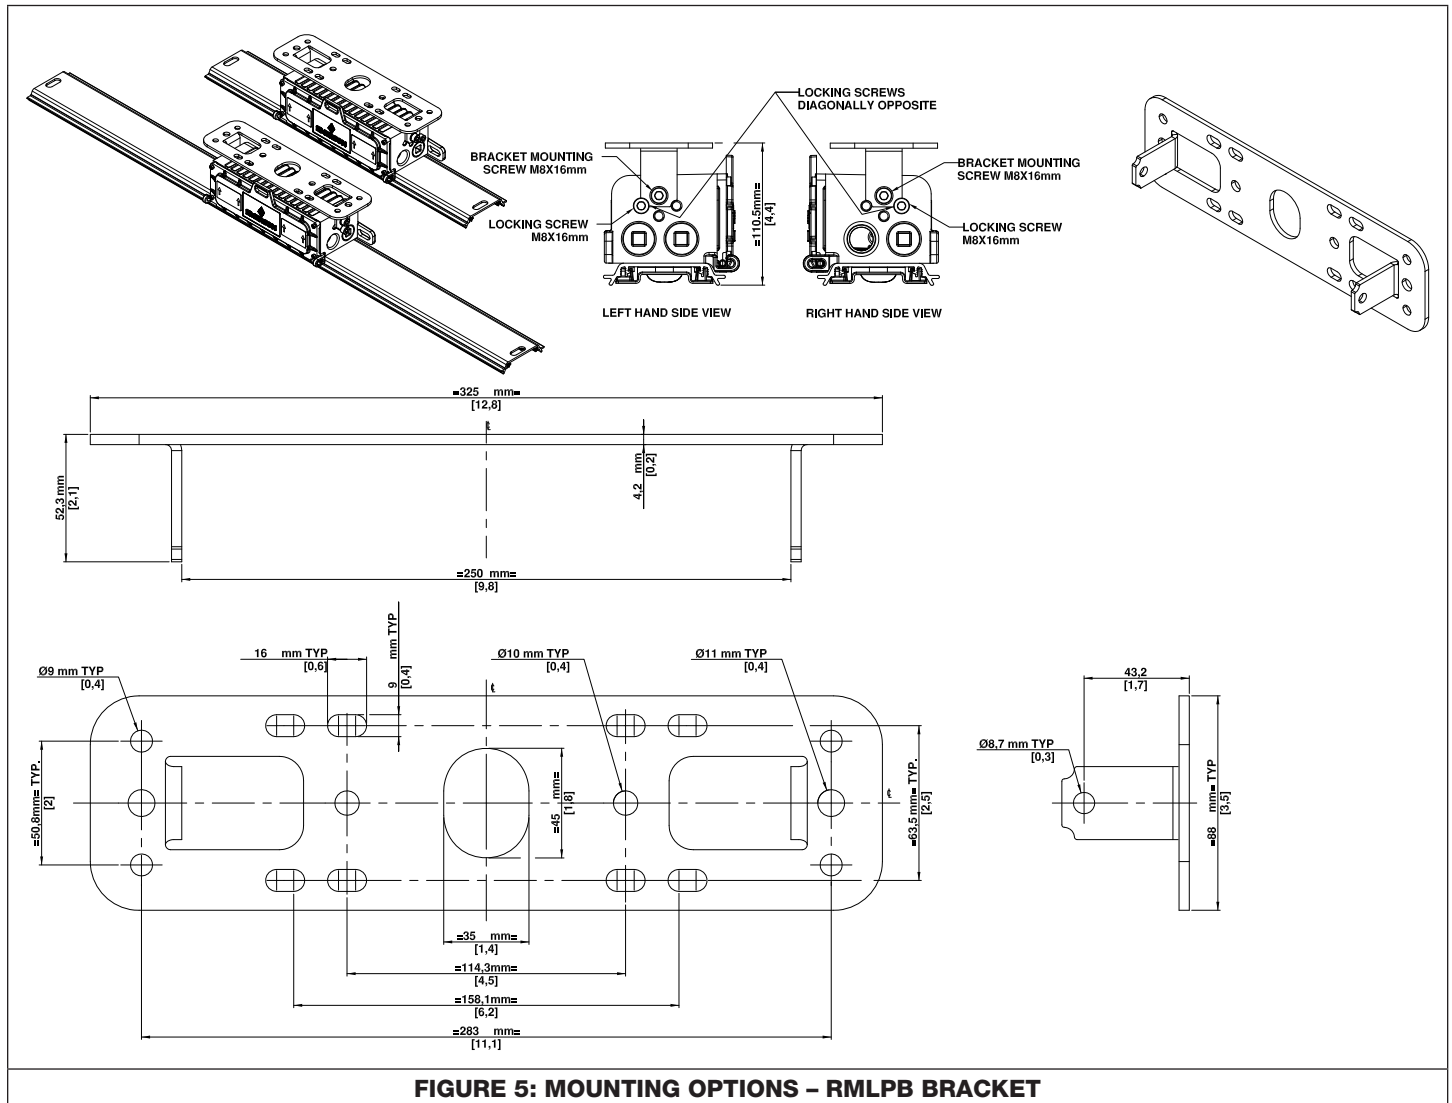

FIGURE 5: MOUNTING OPTIONS – RMLPB BRACKET
2. Mount the luminaire with bracket to a flat surface using user-supplied hardware. See Figure 5 for mounting hole locations.
3. Tighten the screws to secure the luminaire in place with a torque of 15 N.m (133 Lb.in). Locking screws should be applied such that they are diagonally opposite to each other on either side. See Figure 5.